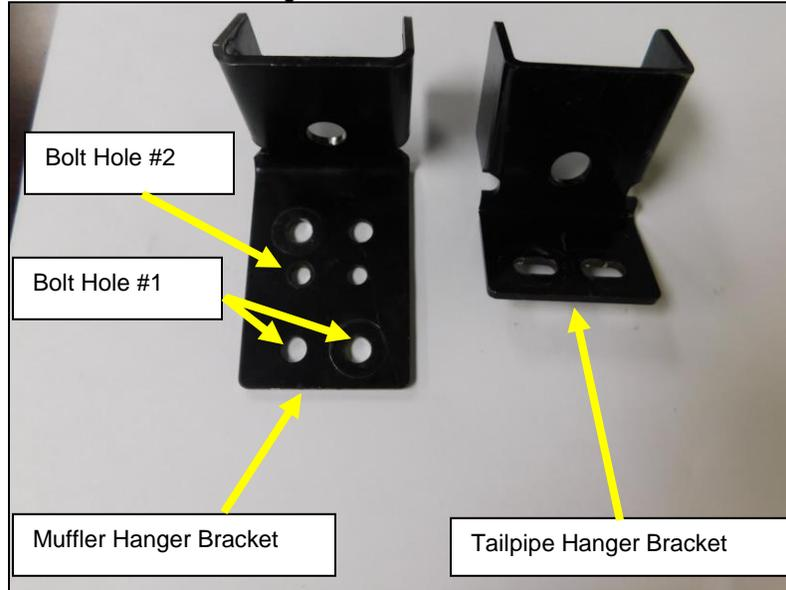

Figure 4
3. Install a provided 5/16 x1 bolt in to each bolt hole position # 1 on the muffler hanger bracket (Figure 4).